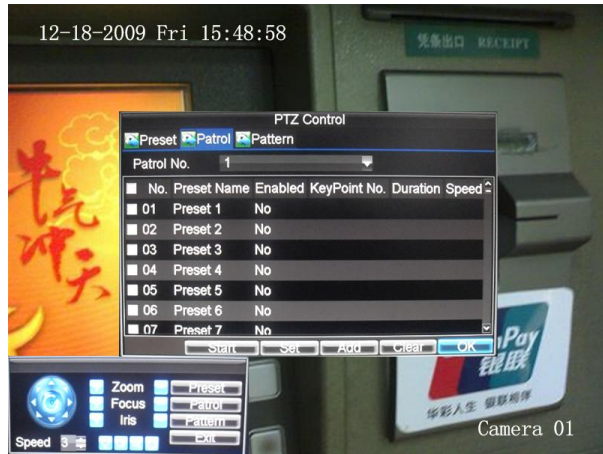

Figure 5. Patrol Management Menu
2. Select the Patrol button to enter the Patrol Management menu, shown in Figure 5.